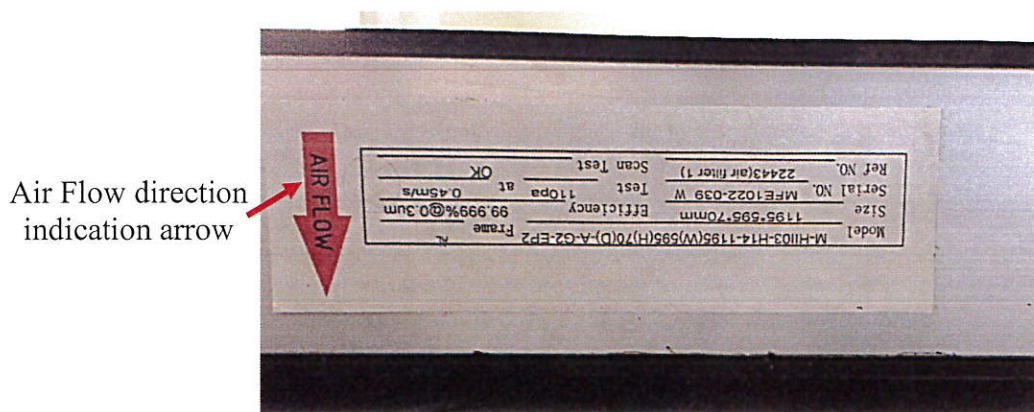

Figure 6: An example of the label on the HEPA filter showing the air flow direction arrow.
6.2.9. **Fit the Replacement Filter.** Unpack and fit the replacement filter ensuring that the replacement filter is fitted with the air flow indication arrow pointing into the clean room, as shown in the example in Figure 6: